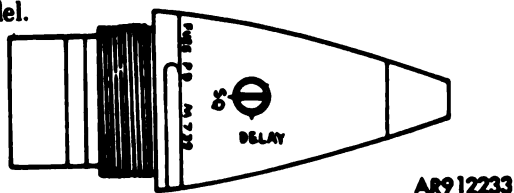

Figure 211.17. Point detonating fuze M739 series.
c. Fuze, Point Detonating, M739 and M739A1 (fig. 211.17). These fuzes are the latest improved version of the selective impact fuze. Each has an aluminum body, and a rain insensitive head so that it can be fired through a heavy rainstorm without premature functioning of the round of ammunition. These fuzes come shipped set for superquick action, and can be set for delay action by turning the setscrew. The M739A1 fuze contains a new impact delay module which provides more effective functioning in the delay mode. In addition to the stamped markings, the M739A1 fuze is anodized green for positive identification of fuze model.